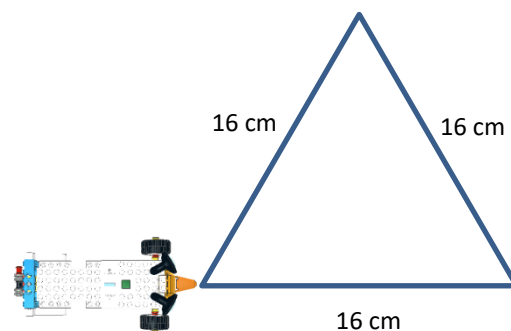

Figure 35: Exercise - Triangle
1. Take a large piece of paper and a marker and draw an equilateral (a triangle with all sides the same length). Using a ruler make each side of the triangle 16cm long (Figure 35). How many degrees will be needed for the Move block to make REA turn correctly, and how many times should the loop repeat?